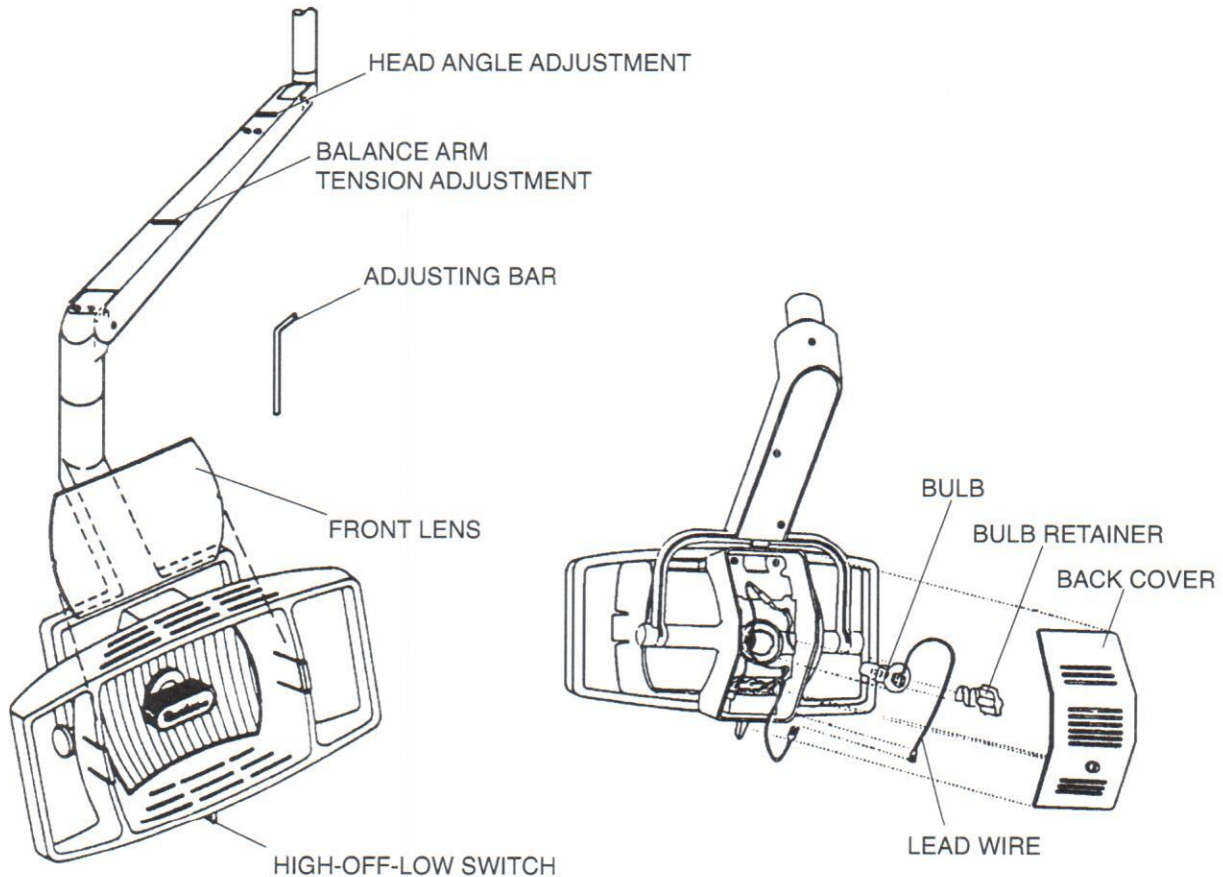

FIGURE 7
- 2.7.2. Confirm that swing arm is properly adjusted to stay where it is placed. If necessary, move head up or down to expose appropriate cross drilled nut and adjust with adjusting bar provided. (SEE FIGURE 7.)